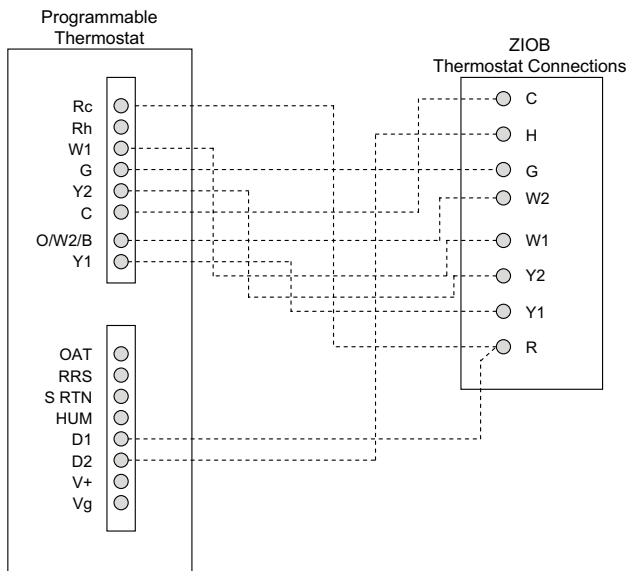

Fig. 45 — 48WE*H17 Unit with Humidi-MiZer Dehumidification System with Edge® Pro Thermidistat Device
3. The Thermidistat has dry contacts at terminals D1 and D2 for dehumidification operation (see Fig. 45). Connect D1 to the R terminal on the ZIOB. Connect D2 to the H terminal on the ZIOB. Refer to the installation instructions included with the Carrier Edge® Pro Thermidistat device for more information.